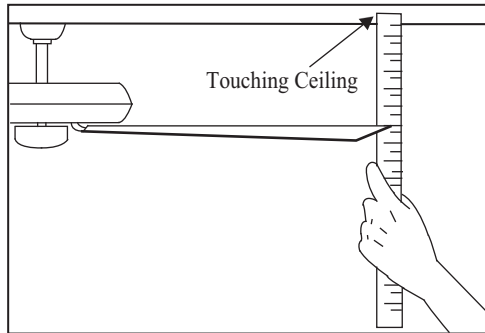

Figure 14
2. Most fan wobble problems are caused when blade levels are unequal. Check this level by selecting a point on the ceiling above the tip of one of the blades. Measure from a point on the center of each blade to the point on the ceiling. Measure this distance as shown in Figure 14. Rotate the fan until the next blade is positioned for measurement. Repeat for each blade. Measurements deviation should be within 1/8". Run the fan for 10 Minutes.